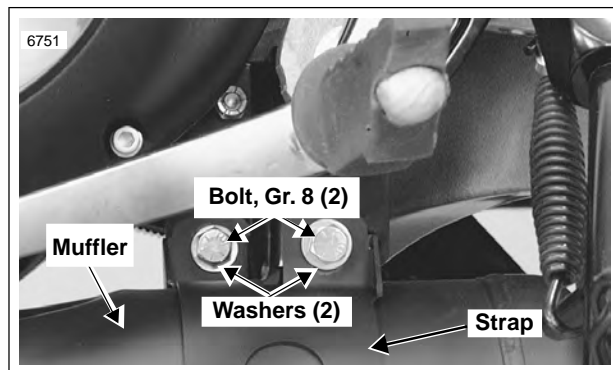

Figure 2-92. Rear Muffler Mounts
2. See Figure 2-92. Remove bolts, lockwashers and washers securing muffler to Z-bracket.
6. See Figure 2-92. Position muffler and install to rear mounting support and weldnuts in rear muffler straps with two sets of bolts, washers and locknuts. Tighten to 22-24 ft-lbs (30-33 Nm).